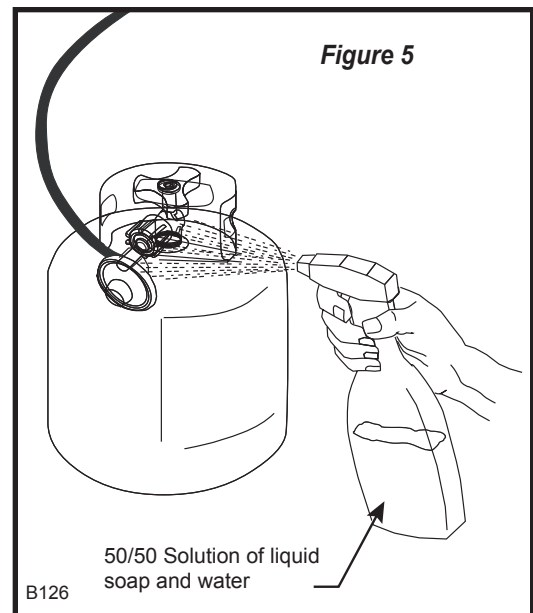

Figure 5
3. Always use a brush or spray bottle to apply a 50/50 solution of liquid soap and water to all connection points (as illustrated in Figure 5) to test for gas leaks. Never use a match or open flame for that purpose.